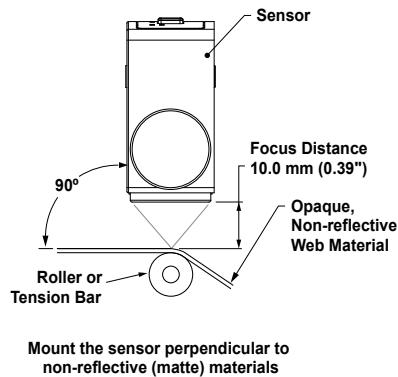

Figure 5. Mounting for Matte Material
- Whenever possible, sense a web material at a location where it passes over a tension bar or roller, to minimize the adverse effects of web flutter or sag (Figure 5 on p. 3).